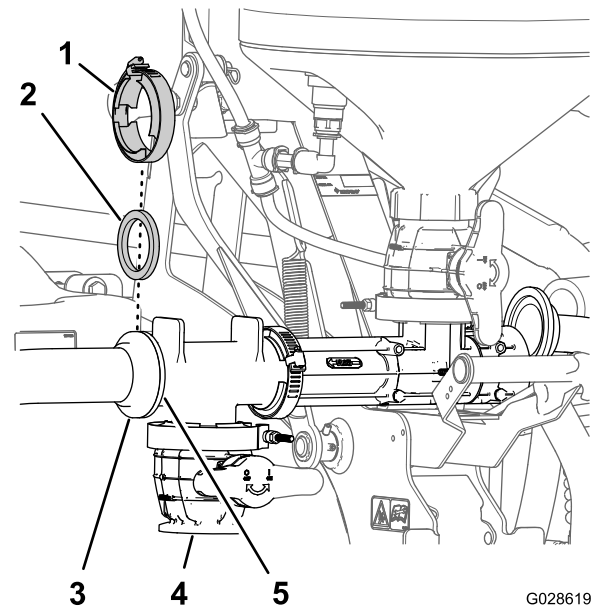

Figure 24
4. Secure the tank hose to the T-fitting with a gasket and flanged clamp (Figure 24).
5. Raise and lower the eductor to ensure that the tank hose will not catch on other parts of the sprayer (Figure 24).